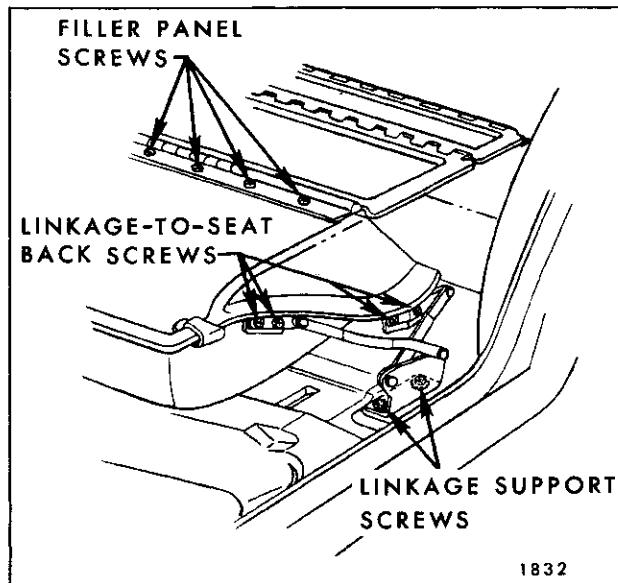
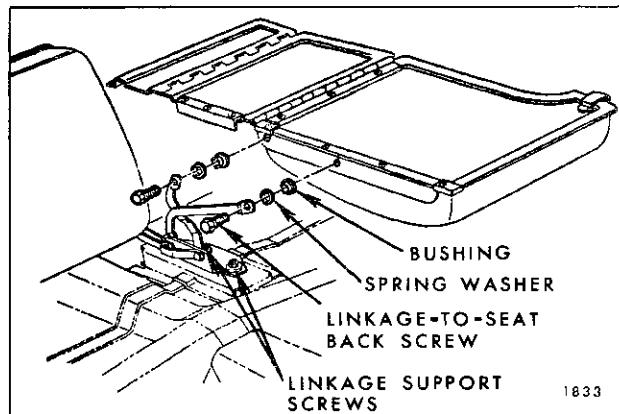

Fig. 15-68—Folding Second Seat Back Linkage and Filler Panel
Fig. 15-69—Split Second Seat Center Linkage
- On both sides of seat back, remove screws securing seat back to folding linkage (Fig. 15-68), and remove seat back and panel assembly from body. See Figure 15-69 for center linkage attachments on split second seat.